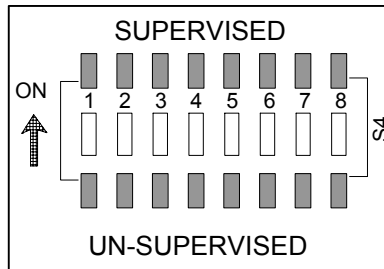
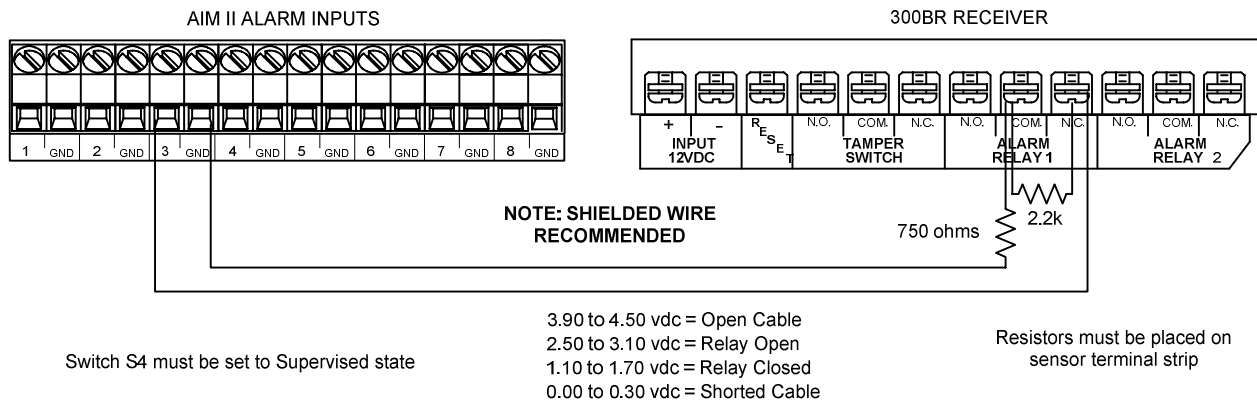

Figure 7 – Supervised/Un-Supervised State Switch S4
Figure 8 – Supervised Wiring Diagram
Switch S4 is used to set any contact input to a Supervised or Un-Supervised state as shown in Figure 7. When set to the Un-Supervised state, alarms will be generated as described in Section 3.3. When set to the ‘Supervised’ state (ON), a set of resistors (*not supplied*) mounted to the contact being monitored will be required as shown in Figure 8.
Switch S4 is used to set the contact to a Supervised or Un-Supervised state as described in Section 3.4. If a contact is to be supervised, two (2) resistors (750 ohm and 2.2K, ¼ W, 5%) will need to be connected at the contacts terminal points as shown in Figure 8. Set the switch(s) to the appropriate state.